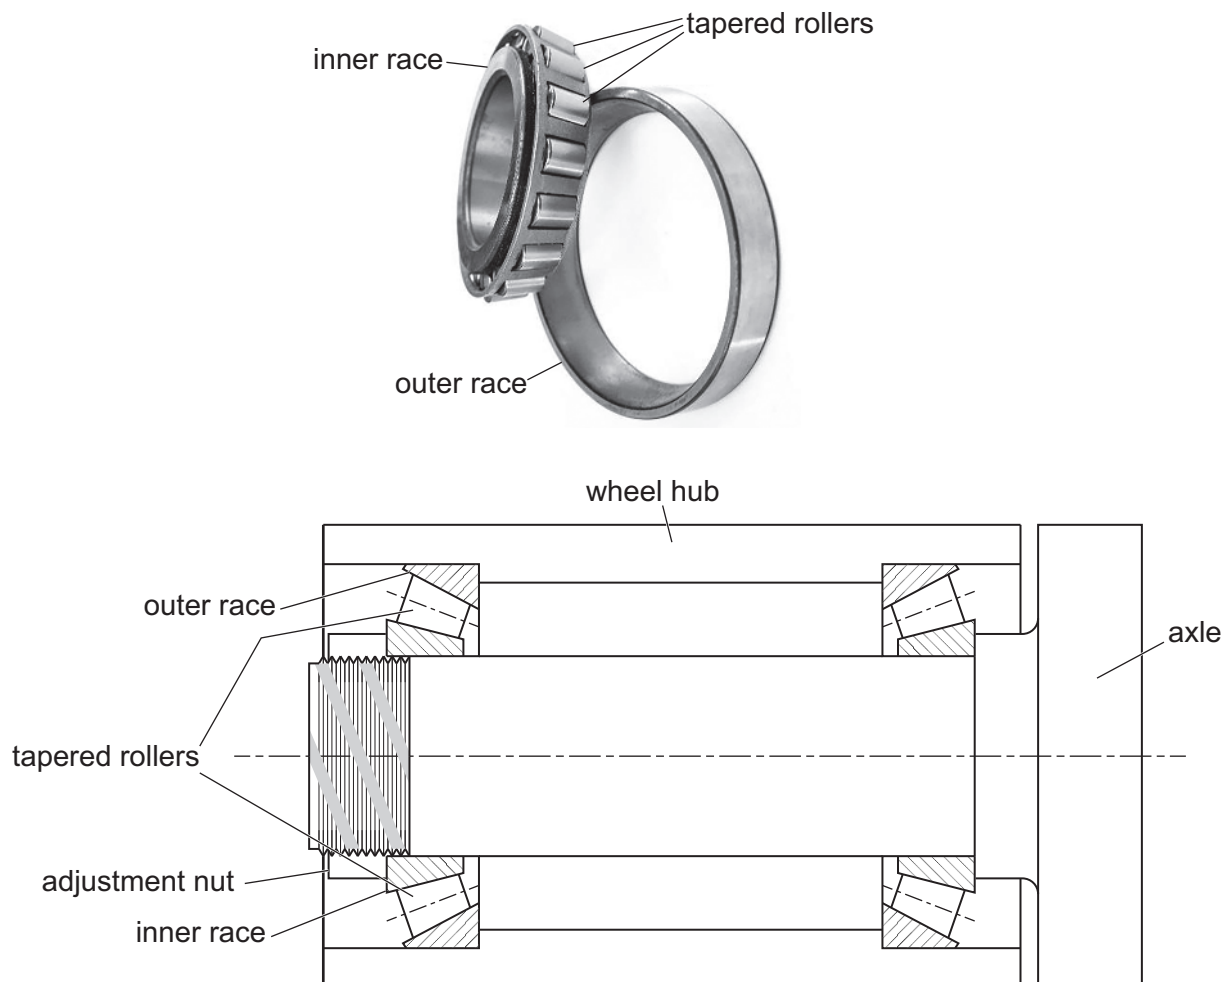

Fig. 10.5
- (ii) Fig. 10.5 shows a tapered roller bearing with a section showing a wheel hub and axle that uses tapered roller bearings.